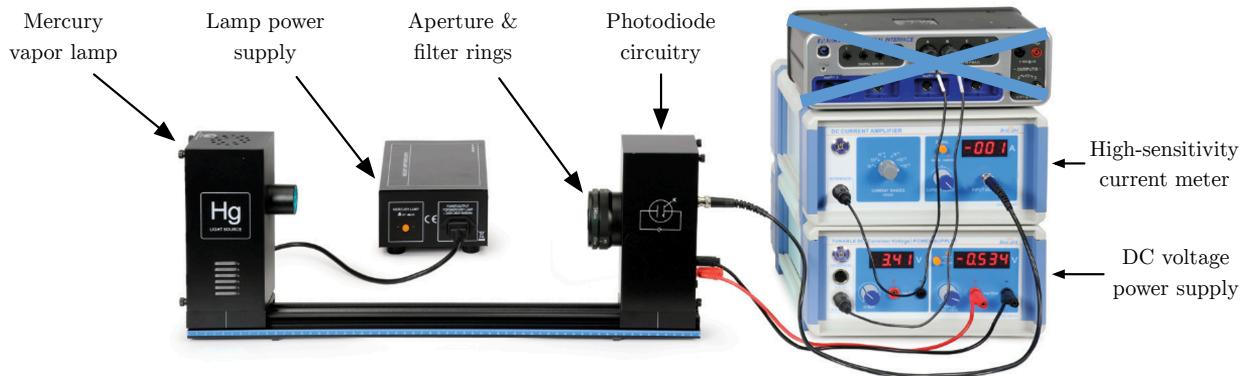

FIG. 1. The PASCO Scientific Photoelectric effect apparatus used in this lab. (We won't be using the crossed-out electronic unit.)
1. Mount the mercury lamp and the photodiode case on the track as shown in Figure 1.